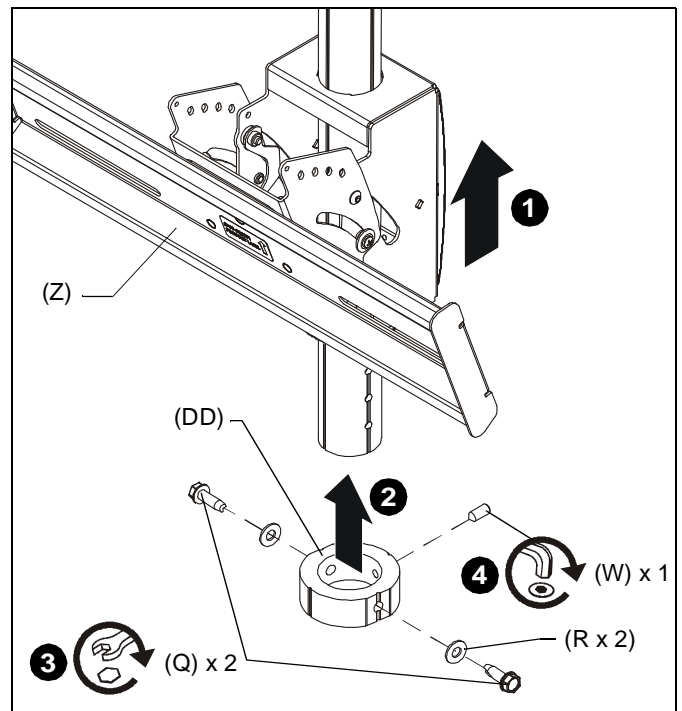

Figure 3
1. Slide ceiling mount (Z) up from below onto installed column (not included). (See Figure 3)
2. Slide bottom stop collar (DD) onto installed column, lining up holes in collar with holes in column.
3. Install two 5/16" x 1" self-tapping screws (Q) through two 5/16" flat washers (R), bottom stop collar (DD), and into installed column.
4. Install and tighten one 5/16" x 3/4" set screw (W) into bottom stop collar (DD). (See Figure 3)